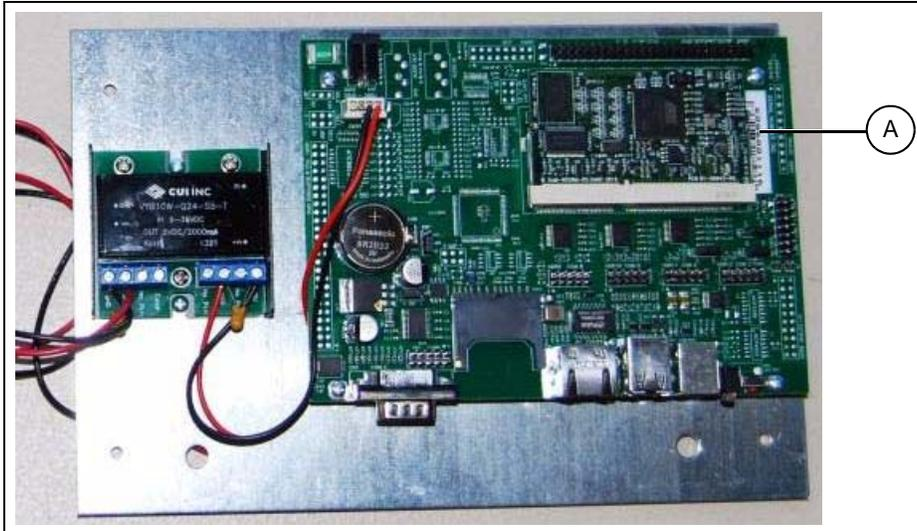
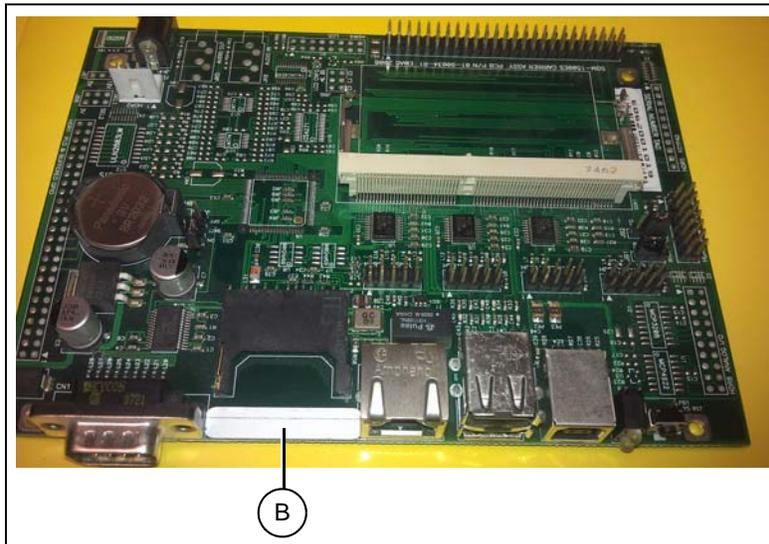

Figure 10A
Figure 10B
1. Turn the WatchDog board to where the components of the board are facing the ground and the rubber feet are facing the sky. There should be a white sticker on the board with the serial number on it, refer to Figure 10A and Figure 10B.